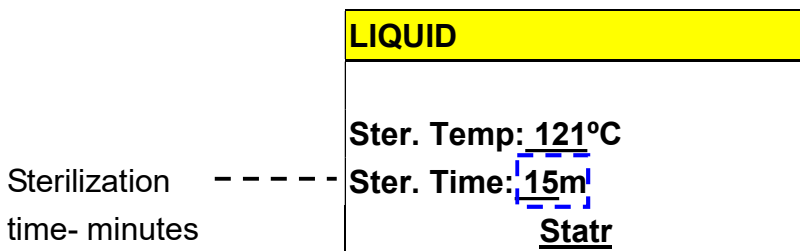

Figure 68
- Press  button to store sterilization time parameter as shown in Figure 68.